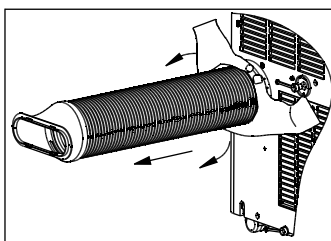

Fig.29
- Unscrew the exhaust hose to the right or left and pull out to detach(Fig.29), keep it safety, and cover the window (wall) hole with the adaptor cap.